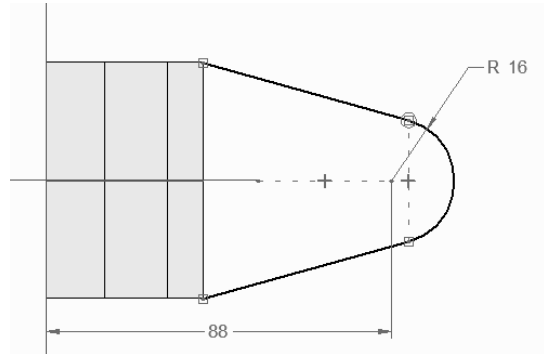

Figure 5-52 Open profile for the second feature
3. Draw the profile for the second feature using sketching tools and then add required dimensions and relationships to the profile, as shown in Figure 5-52. Note that you do not need to draw the vertical line on the left to close the sketch. While creating the feature, you can define the side of material addition to complete the feature.